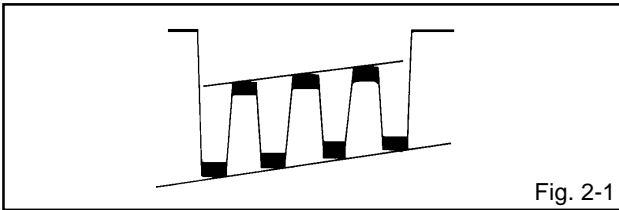

Fig. 2-1
4. Press the VOL. UP/DOWN button on the remote control until the waveform becomes as shown in Fig. 2-1.